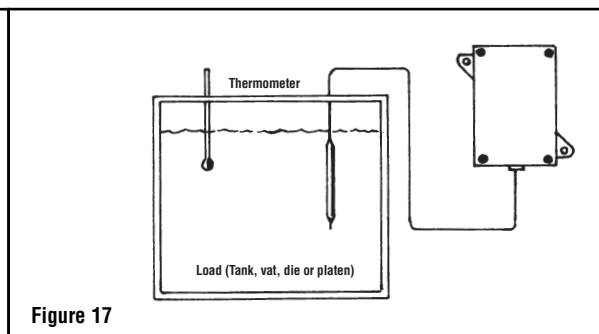

Figure 17
- B. With the aid of an accurate thermometer or other temperature measuring device, recalibration may be performed within the process as in Figure 17.